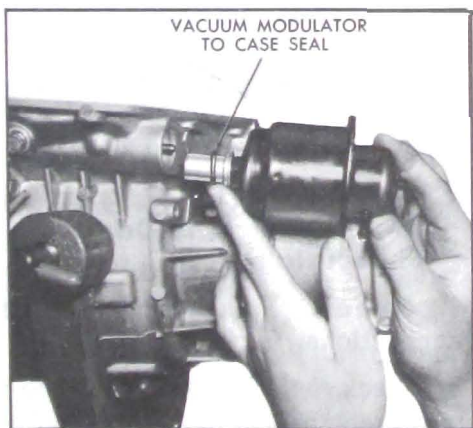

Figure 5-354
2. Install case to vacuum modulator oil seal. Install modulator into case. See Figure 5-354.